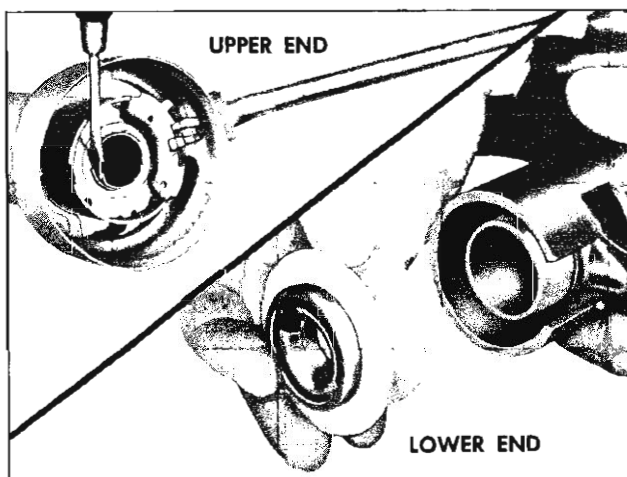

Fig. 26—Shift Tube Retainer Ring, Washer and Lower Bushing
18. From the top of the shift tube, remove the shift tube retainer ring and washer (fig. 26).
19. From the lower end of the mast jacket, remove the shift tube bearing retainer (fig. 26).